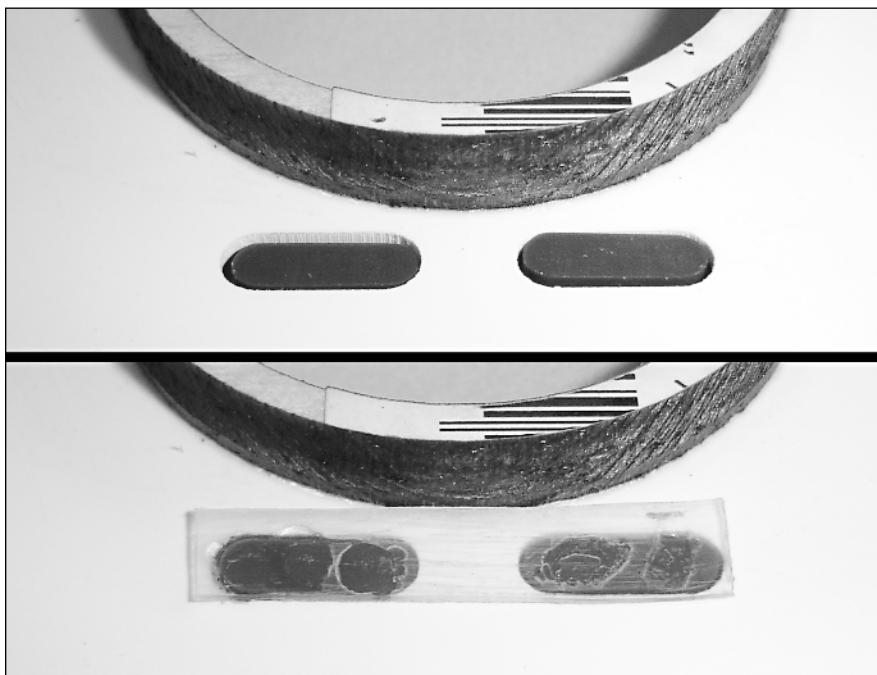

FIGURE 11-21: Installing modified select/start buttons.
3. Set the sliced button tops into the holes as shown in Figure 11-21, with the cut sides up (inside the unit). Along with the nuts under the control riser, this positions these rubber pieces at the right height for the following steps. It also ensures that the pieces are glued in the correct position on the plastic to fit the holes, since they're already in the holes.